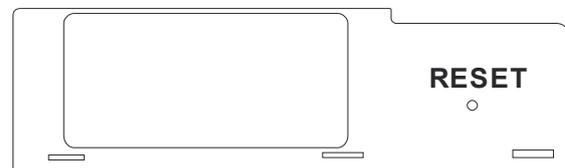

**Figure 72**
2. Gently pull out the HT lead and the valve cable from the receiver (see **Figure 72**).